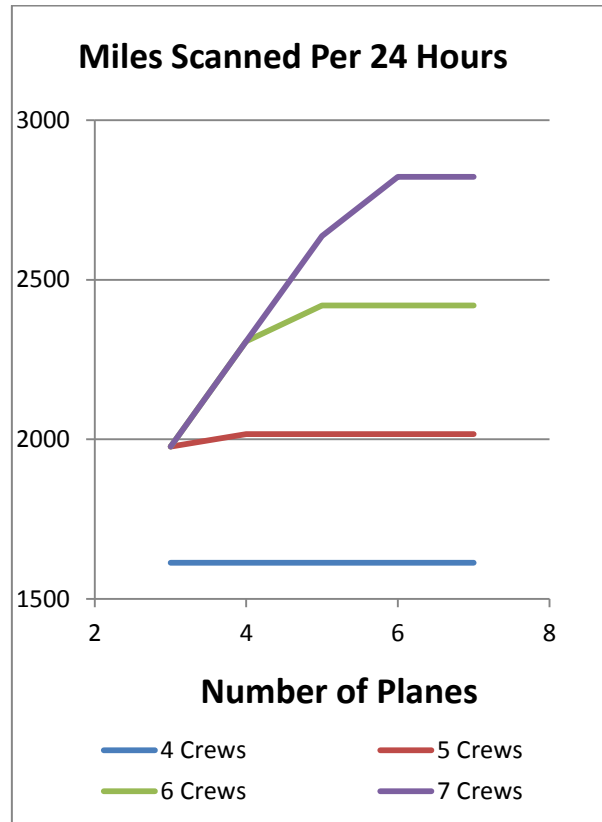

Figure 8.4 Excel plot of trade study results
- d. Open **LE_Trade.xlsx**. It should appear similar to Table 8.2. Using the standard graphing functionality of Excel, a plot similar to Figure 8.4 can easily be created.